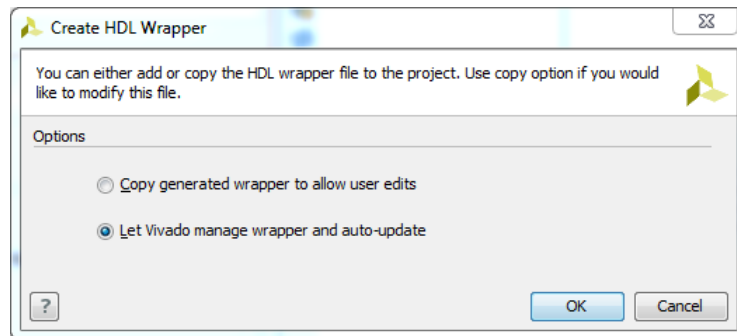

Figure 26: Creating an HDL Wrapper
2. In the Create HDL Wrapper dialog box, select **Let Vivado manage wrapper and auto-update**, as in Figure 26. Click **OK**.